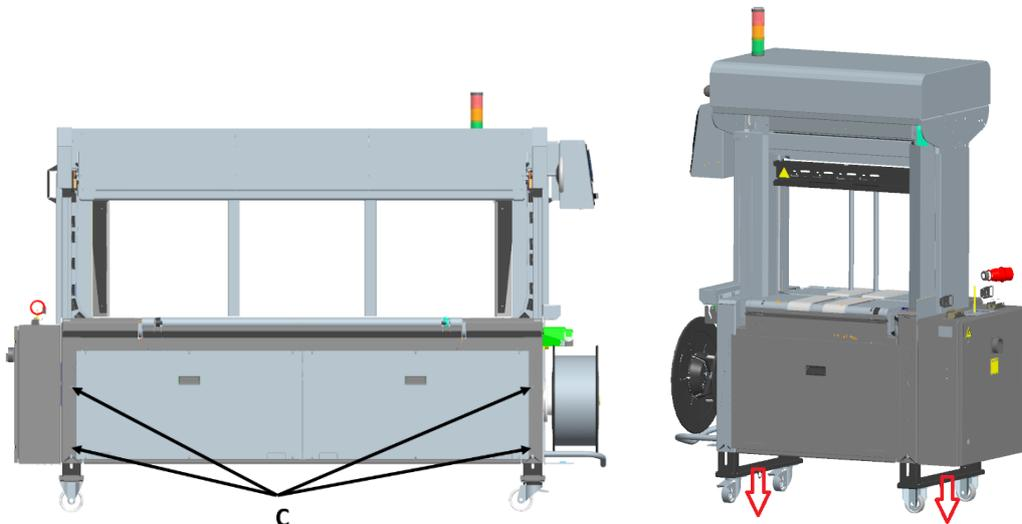

Figure 15: Height adjustment
The table height is usually adjusted at the side pedestals. To this end, raise the strapping machine in area (A) with a lifting device (e.g. pallet truck). Loosen the screws (C) one after the other – see Figure 15 –, then pull out the side pedestals and adjust the corresponding table height. Now tighten the bolts (C) again.